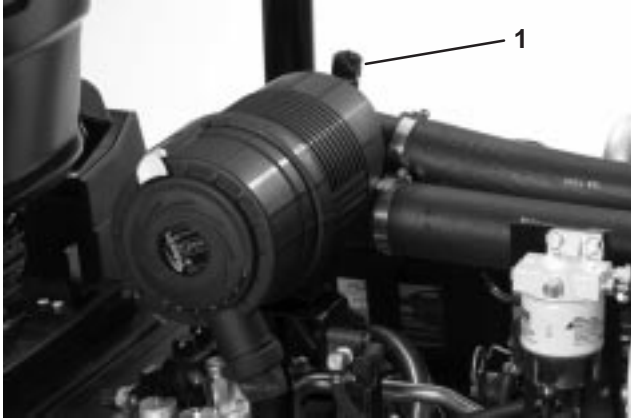

Figure 42
Service the air cleaner filters whenever air cleaner indicator (Fig. 42) shows red or every 400 hours (more frequently in extreme dusty or dirty conditions). Do not over-service the air filter.
8. Reset indicator (Fig. 42) if showing red.